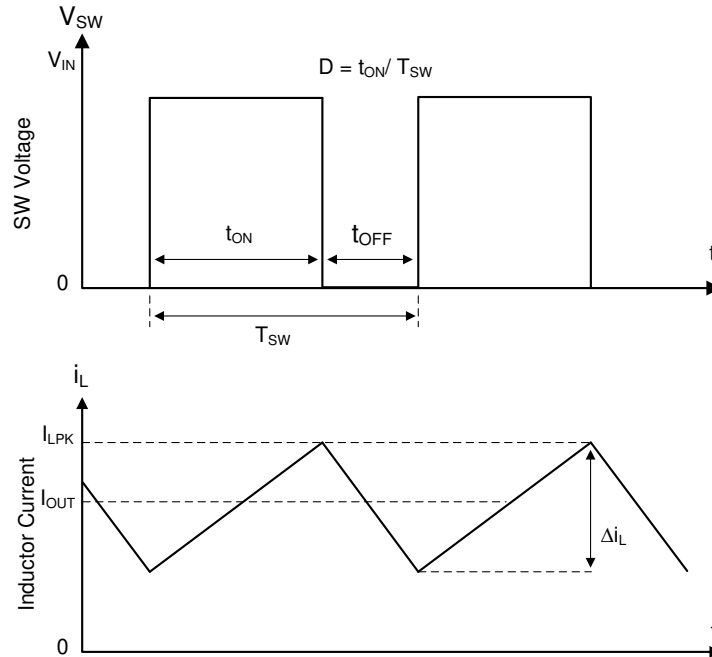

Figure 8-1. SW Node and Inductor Current Waveforms in Continuous Conduction Mode (CCM)
The following operating description of the LMR51430 refers to Section 8.2 and to the waveforms in Figure 8-1. The LMR51430 is a step-down synchronous buck converter with integrated high-side (HS) and low-side (LS) switches (synchronous rectifier). The LMR51430 supplies a regulated output voltage by turning on the high-side and low-side NMOS switches with controlled duty cycle. During the high-side switch on time, the SW pin voltage swings up to approximately V_{IN} , and the inductor current, i_L , increases with a linear slope of $(V_{IN} - V_{OUT}) / L$. When the high-side switch is turned off by the control logic, the low-side switch is turned on after an anti-shoot-through dead time. Inductor current discharges through the low-side switch with a slope of $-V_{OUT} / L$. The control parameter of a buck converter is defined as: